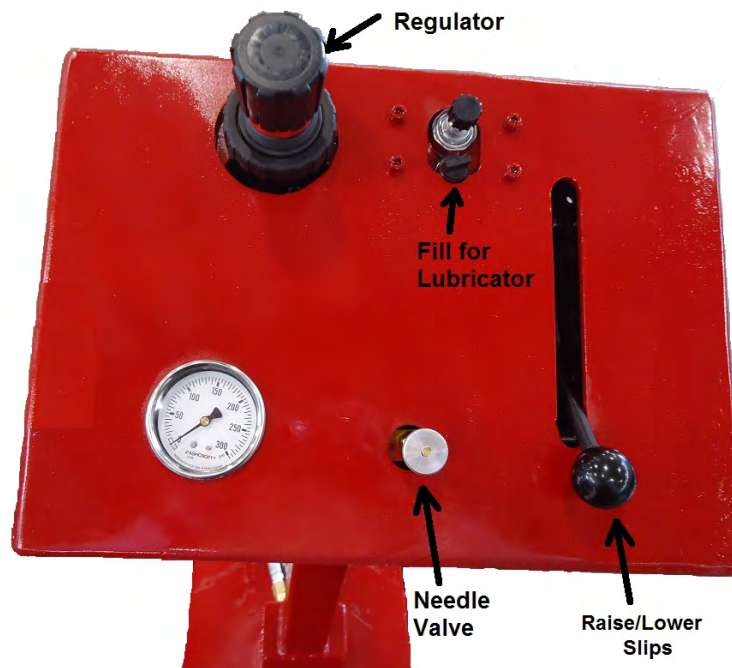

Figure 3
The system operates at 125 psi. Four (4) cylinders mounted around the spider move the slip lifter plate up and down. The control box gauge shows incoming pressure at the regulator. The regulator can be adjusted to decrease the pressure as necessary. Pull the top of the regulator and turn to adjust. At 125 psi, push the regulator top to lock. The regulator has an automatic float drain. A lubricator provides lubricated air needed by the handle valve. The lubricator should be set to 1 or 2. The handle raises or lowers the slips depending on how the hoses are connected. See Figure 3. The needle valve controls the pressure sent to the cylinders causing the slips move up.